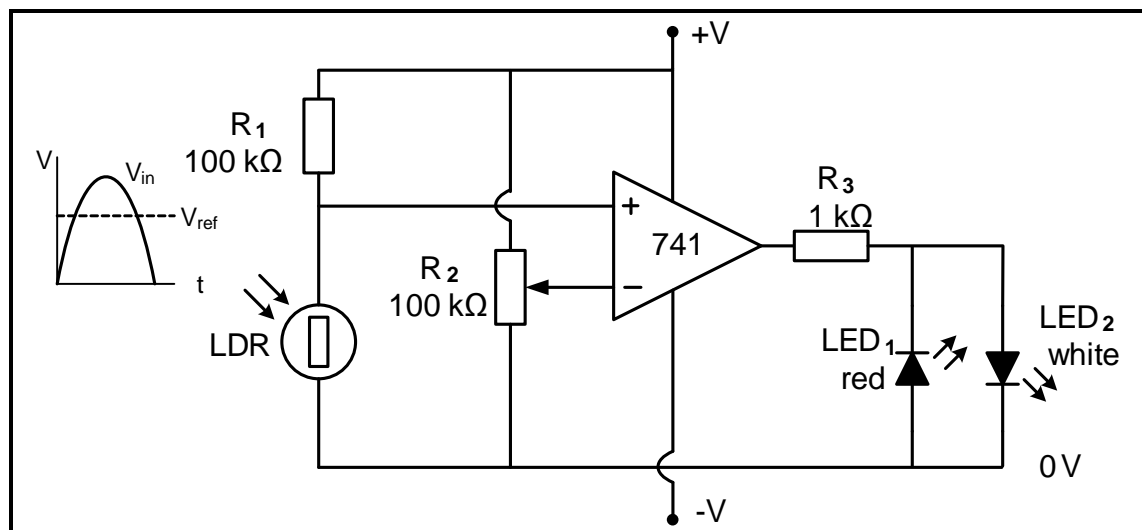

FIGURE 3.3: OP AMP COMPARATOR AS A DARK SENSOR
- 3.3 FIGURE 3.3 below shows an op amp as a comparator. The resistance of the LDR increases as the level of light falls.